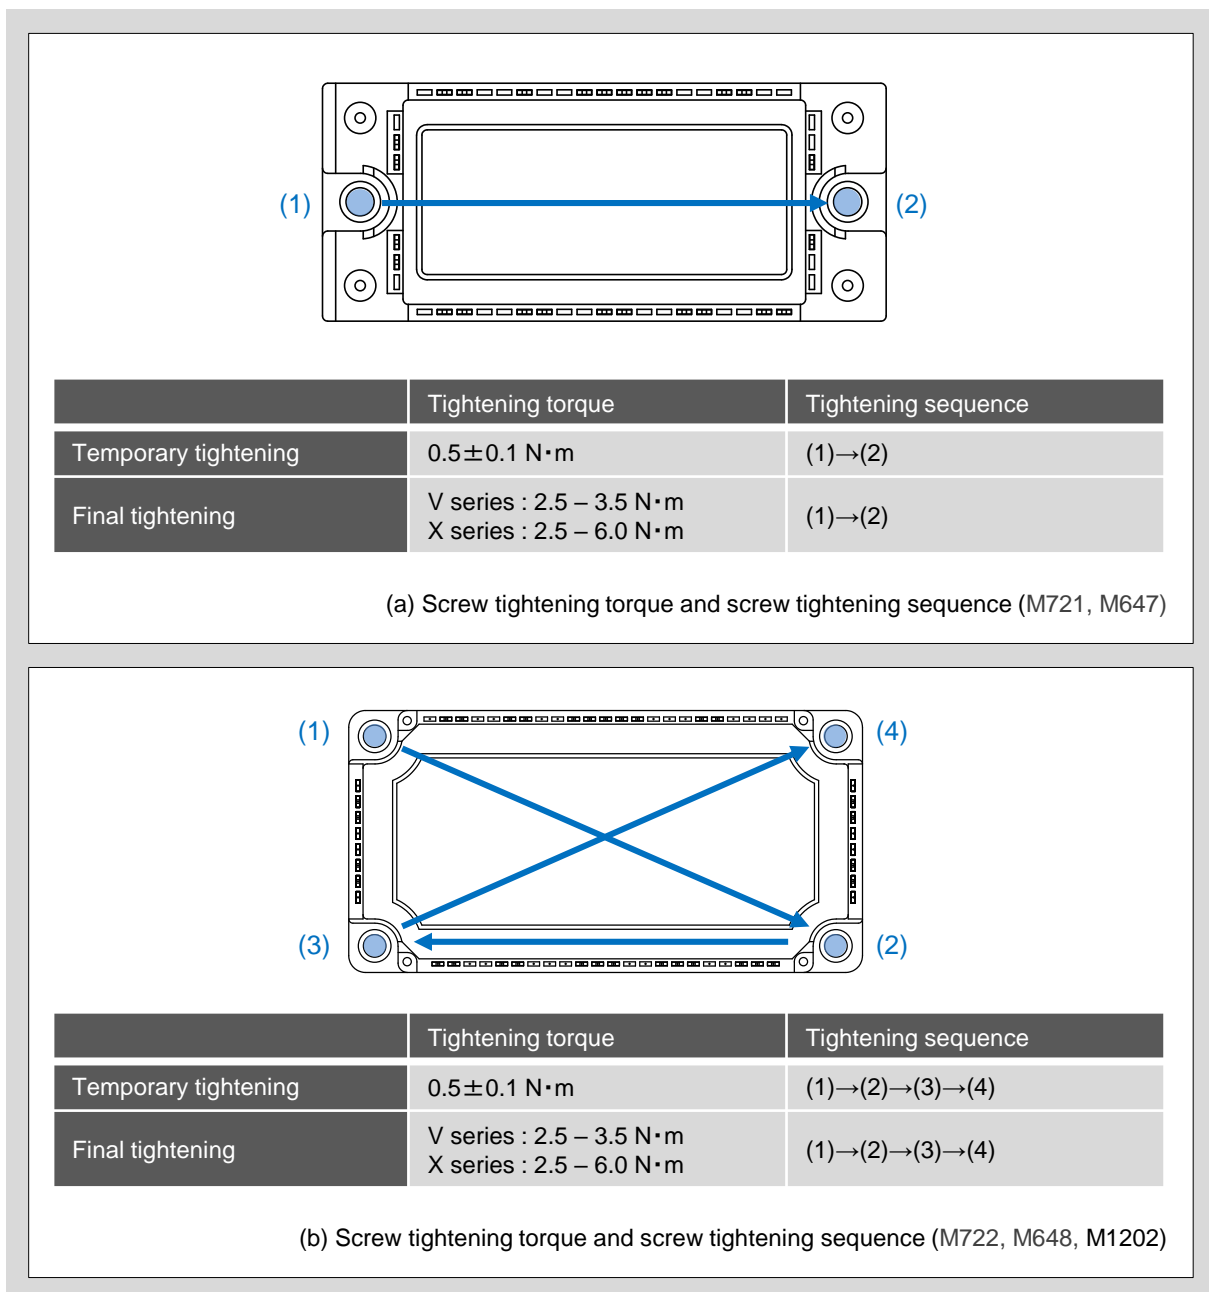

Fig.13 Screw tightening torque and screw tightening sequence
2. To fix the module with even force, first perform temporary tightening with $0.5\text{N}\cdot\text{m}$. Fig.13 shows the tightening sequence.